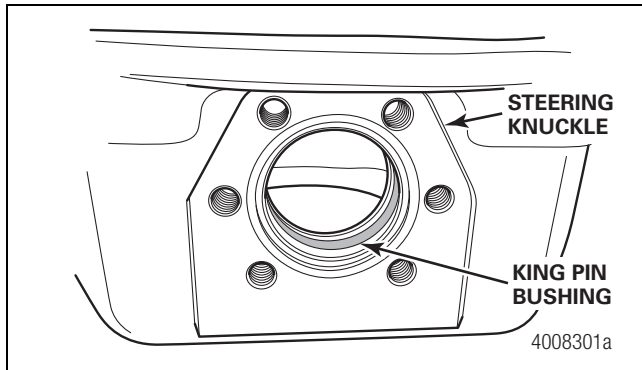

Figure 8.4
5. If the king pin bushings were removed, use a flat face driver and press to install the upper and lowering bushings into the knuckle bores. Press the bushings in until they are flush with the bore surface. Figure 8.4.